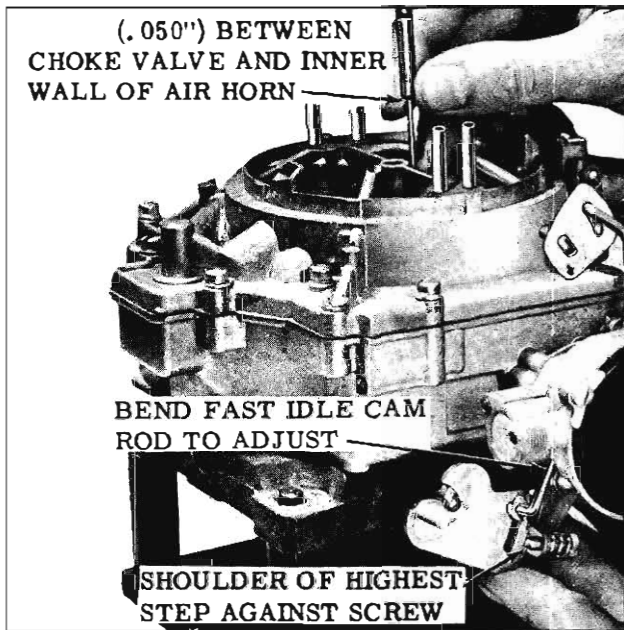

Fig. 4-170 Fast Idle Cam Rod Adjustment
2. With the shoulder of the highest step of the fast idle cam held against the fast idle screw, hold the intermediate choke lever in the extreme up position. The intermediate choke rod and the fast idle cam rod must be at the upper limit of travel in the slot to remove all travel. Check the clearance between the top edge of the choke valve and the dividing wall of the air horn. Clearance should be .050". (Fig. 4-170)